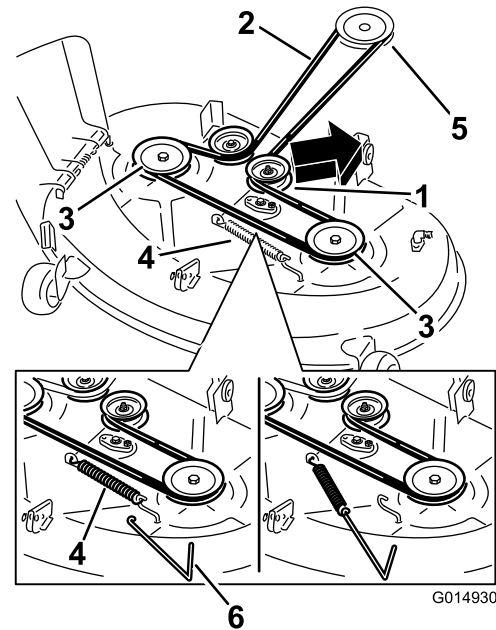
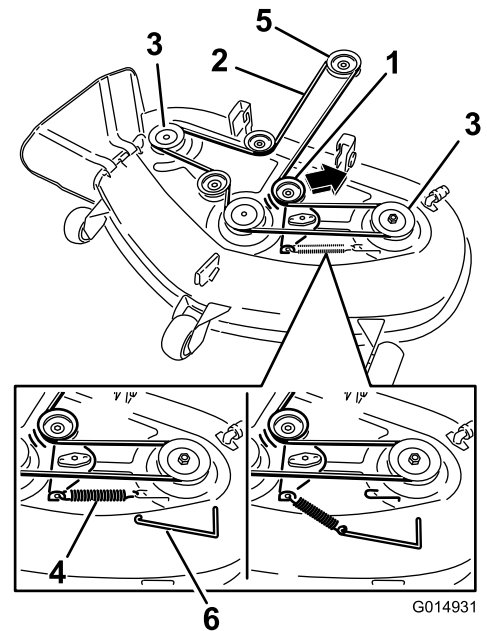

Figure 65
Figure 66
4. Using a spring removal tool, (Toro part no. 92-5771), remove the idler spring from the deck hook to remove tension on the idler pulley and roll the belt off of the pulleys (Figure 65 and Figure 66).
5. Route the new belt around the engine pulley and mower pulleys (Figure 66).
- Using a spring removal tool, (Toro part no. 92-5771), install the idler spring over the deck hook and placing tension on the idler pulley and mower belt ((Figure 65 and Figure 66)).